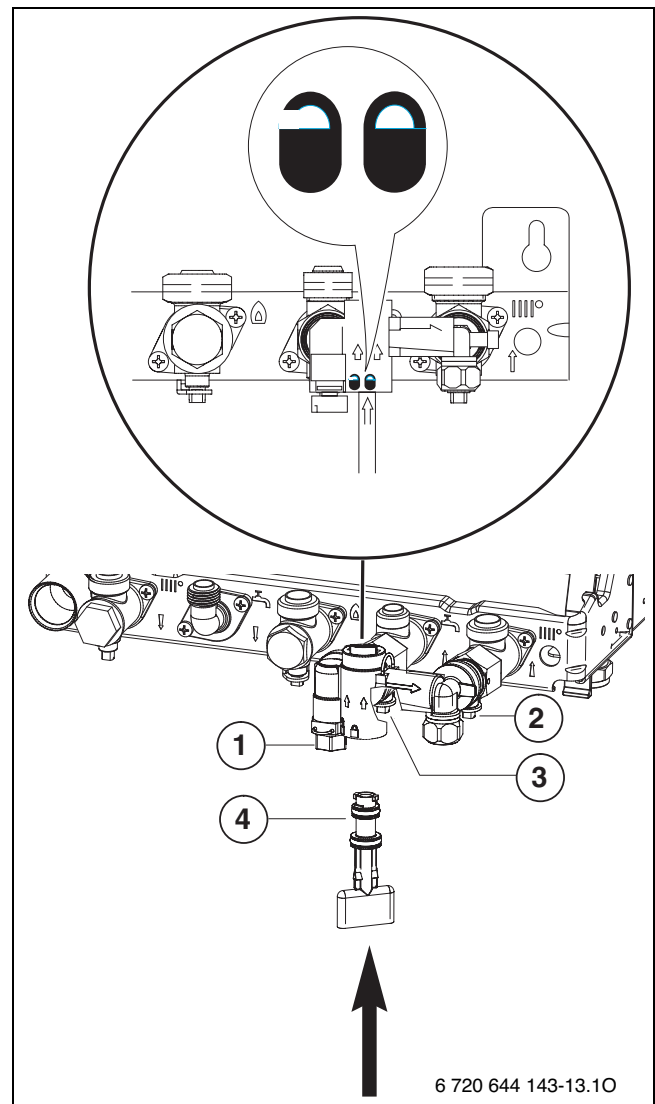

Fig. 24
- ▶ Tighten screw [1] on the filling loop as far as it will go (→ Fig. 24).